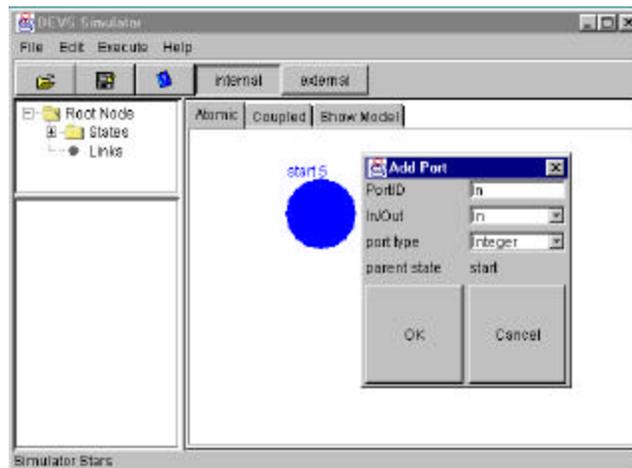

Fig 4
- Click right mouse button on the unit and bring the popup menu. Select “add port” item and an “Add Port” dialog will be shown. Fill the dialog, select proper properties for the port, click OK button. Repeat the procedure and add all of the necessary ports to the unit. Fig 4 shows the result.